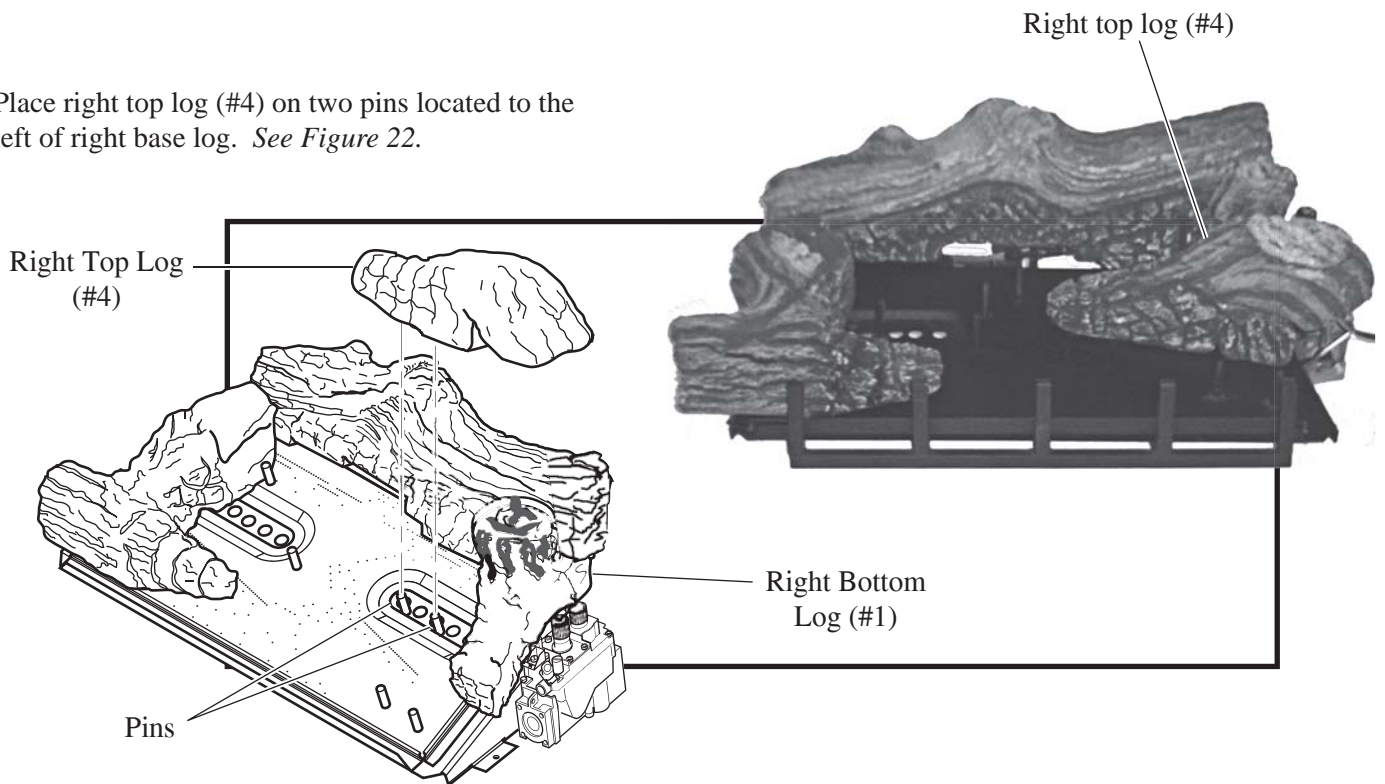

Figure 22 - Installing Right Top Log (#4)
4. Place right top log (#4) on two pins located to the left of right base log. See Figure 22.